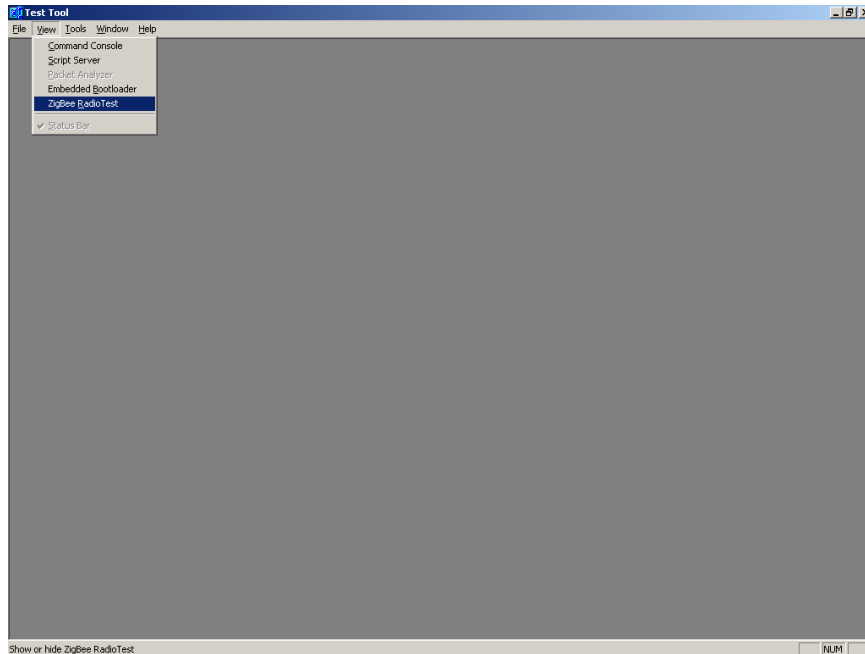

Figure 6-14. Test Tool Window (ZigBee Radio Test Selection)
- To launch the Radio Test script, from the Test Tool main window toolbar, click on View->ZigBee Radio Test as shown in Figure 6-14.